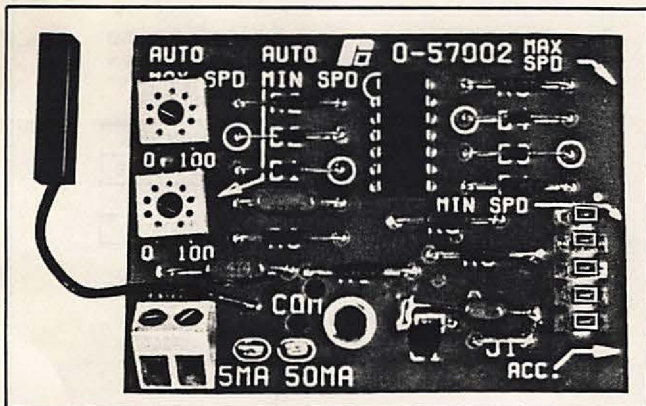

Figure 5.13 — Instrument Interface Kit
**5.7 Instrument Interface/Preset Speed** — The FlexPak Plus can **automatically** follow a milliamper signal from a process control instrument if the optional Instrument Interface/Preset Speed Kit is installed. (Refer to Figure 5.13.) Alternately, the Kit also permits the drive to run continuously at a preselected speed.